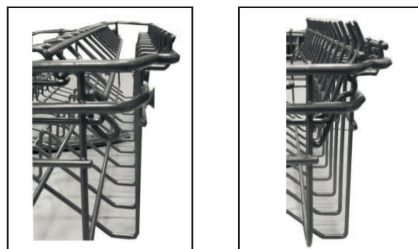

Fig.9
- You can tilt the stand and adjust it in height (Fig 9).